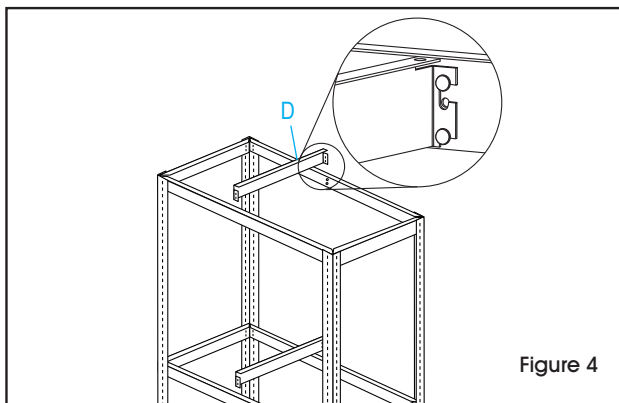

Figure 4
6. Attach shelf supports (D) at each level by placing the keyhole slots (on shelf support) over the rivets (on the inside of the front/back support) and tapping them into place. (See Figure 4)